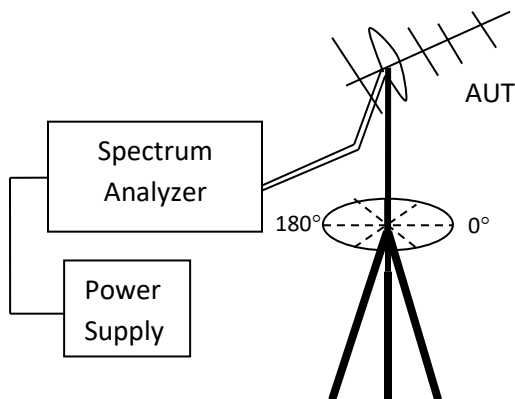
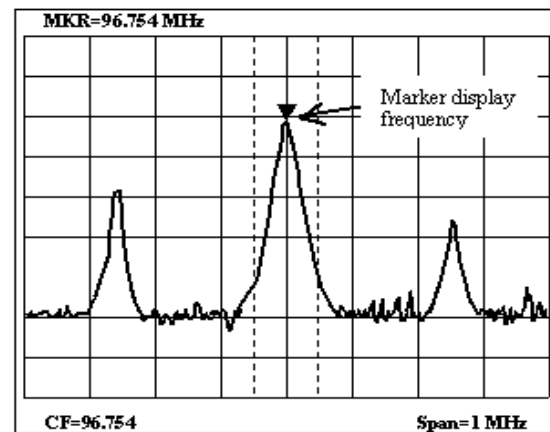

Fig.8 - Measurement set
Fig. 9 – Spectrum analyzer
- Connect the antenna coaxial feed line to a spectrum analyzer. The AUT is the receive antenna for radiation pattern measurements. The transmitter is the appropriate TV transmitter which is far away. The signal received by the AUT from the TV transmitter is measured using the spectrum analyzer. The set up is shown in Fig.8 and a typical display on the spectrum analyzer is shown in Fig. 9.